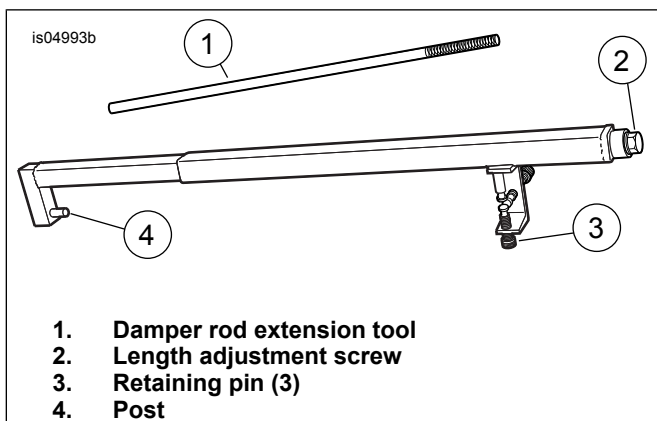

Figure 4. Fork Spring Compressor Tool (HD-45966)
25. See Figure 4. Install fork spring compressing tool:
- a. Clamp tool in vise in a vertical position with length adjustment screw (2) upward.
- b. Place hole at bottom of fork slider over post (4) at bottom end of tool.